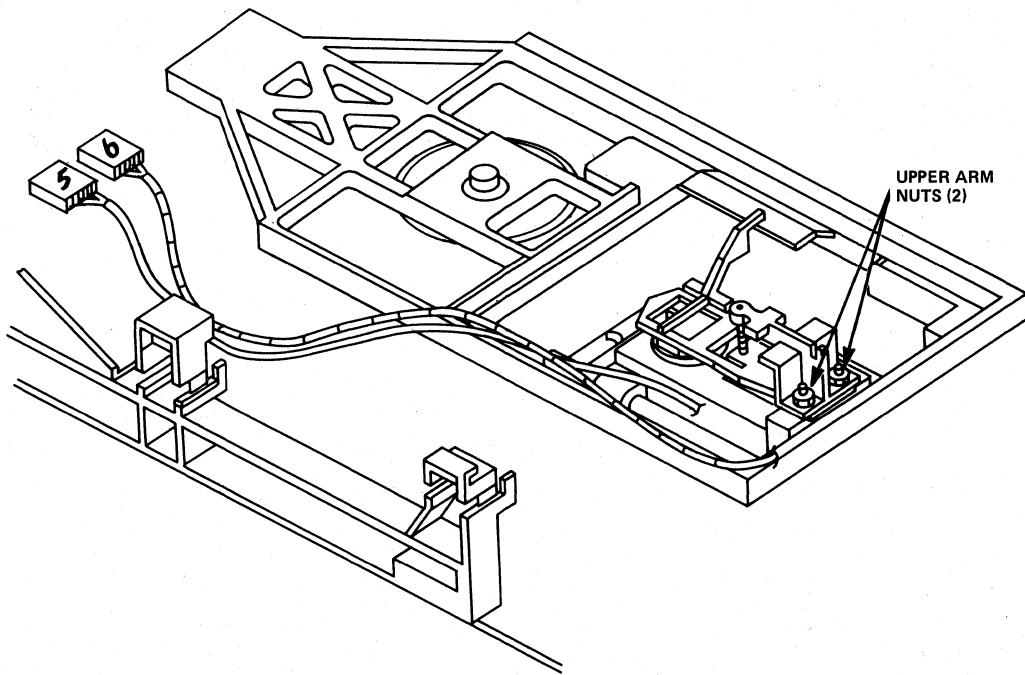

Figure 5-26
- 5.13.3 Using a three-sixteenth (3/16) inch thin wall nut driver, remove the two (2) nuts that attach the upper arm and spring retainer to the Carriage Assembly (see Figure 5-26).